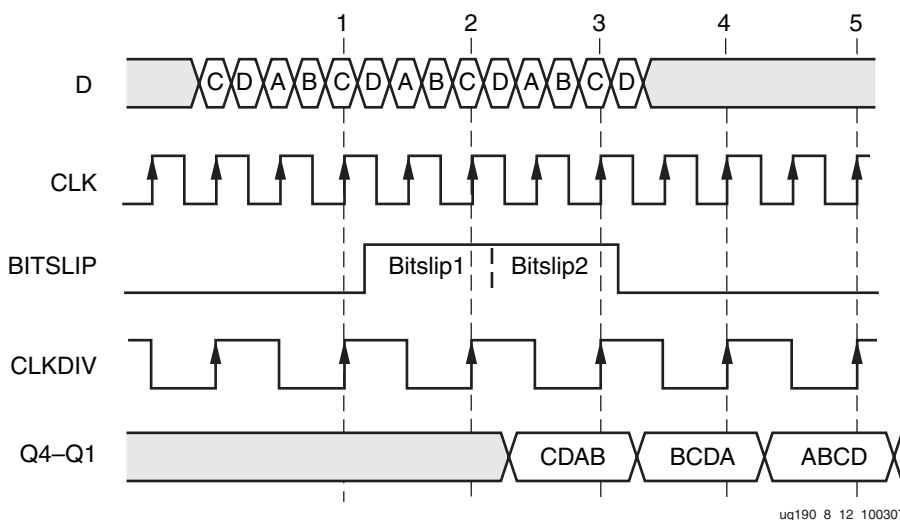

Figure 8-12: Bitslip Timing Diagram
When the ISERDES interface type is MEMORY, the latency through the OCLK stage is one CLKDIV cycle. However, the total latency through the ISERDES depends on the phase relationship between the CLK and the OCLK clock inputs. When the ISERDES interface type is NETWORKING, the latency is two CLKDIV cycles. See Figure 8-12, page 366 and Figure 8-13, page 367 for a visualization of latency in networking mode. The extra CLKDIV cycle of latency in networking mode (compared to memory mode) is due to the Bitflip submodule.
This section discusses the timing models associated with the Bitslip controller in a 1:4 DDR configuration. Data (D) is a repeating, 4-bit training pattern ABCD. ABCD could appear at the parallel outputs Q1–Q4 of the ISERDES in four possible ways: ABCD, BCDA, CDAB, and DABC. Only one of these four alignments of the parallel word makes sense to the user's downstream logic that reads the data from the Q1–Q4 outputs of the ISERDES. In this case, ABCD is assumed to be the word alignment that makes sense. Asserting Bitslip allows the user to see all possible configurations of ABCD and then choose the expected alignment (ABCD). Figure 8-12 shows the timing of two Bitslip operations and the corresponding re-alignments of the ISERDES parallel outputs Q1–Q4.